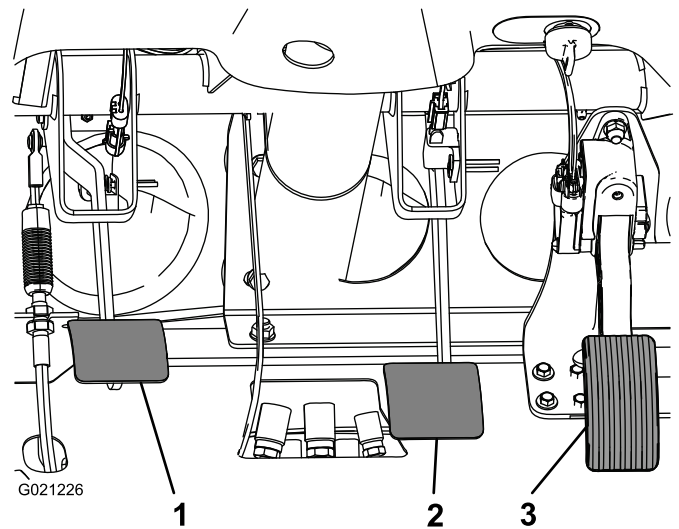

Figure 65
2. Lift up on the brake pedal (Figure 65) until it contacts the frame.
3. Loosen the jam nuts securing the yoke to the master cylinder shaft (Figure 65).